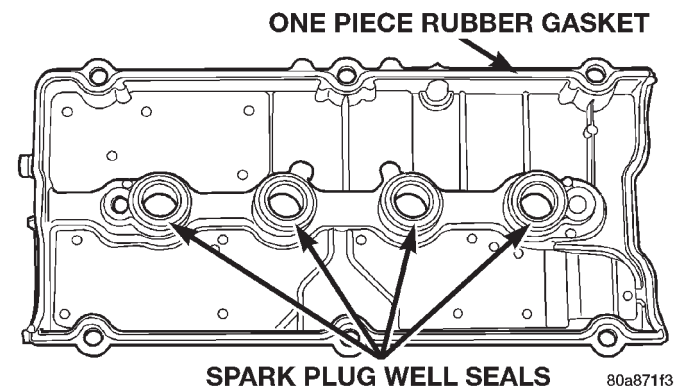

Fig. 25 Cylinder Head Cover Gasket and Spark Plug Seals
- (1) Install new cylinder head cover gaskets and spark plug seals (Fig. 25).